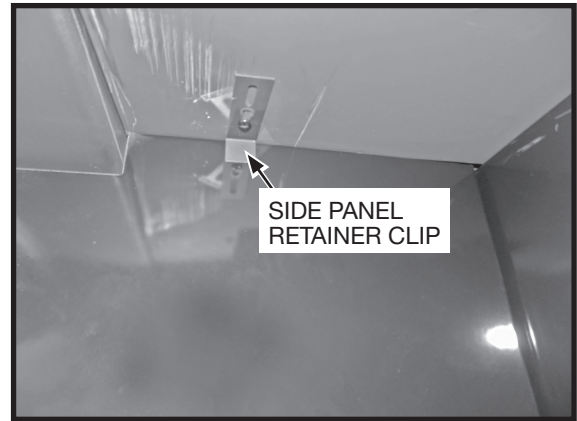

Figure 57: Retainer clip holding up the right side panel.
1. Remove the side panel retainers located on the underside of the firebox heat shield. The retainers are each held in place by one screw (Figure 57).
5. Reinstall side retainers (Figure 57).